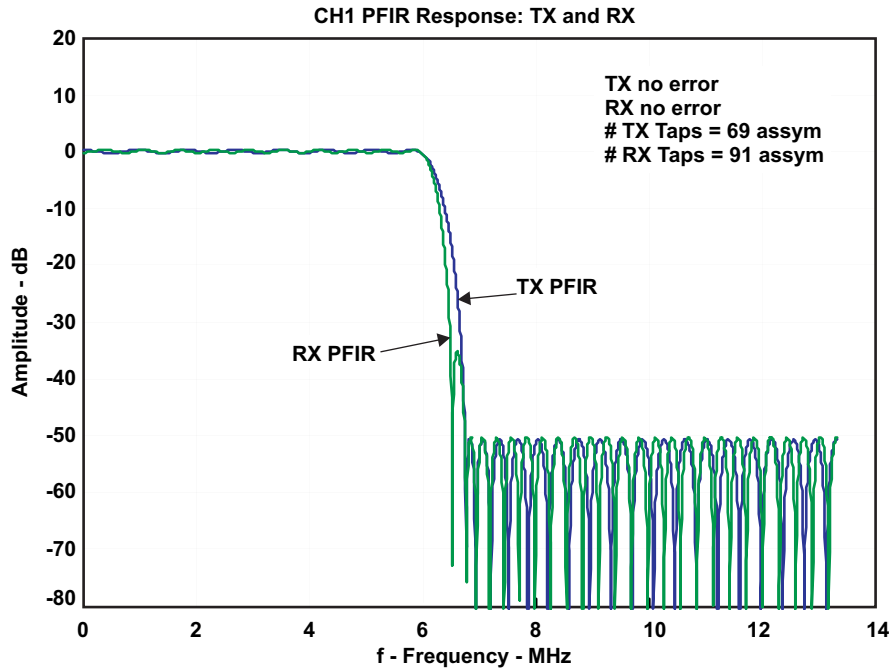

Figure 36. DDC (TX) and DUC (RX) PFIR Responses - Before CIC Correction Convolution
- DDC and DUC separate PFIR spectral responses (Figure 36)
First, look at Figure 36. This plot shows the PFIR spectral response of the DUC (TX) and DDC (RX) *before* convolution with CIC correction taps (using 3 or 5 taps).
The X-axis in Figure 36 has a frequency range from 0 Hz to $F_{PFIR} \div 2$, where $F_{PFIR} = \text{Clock} \div \text{CIC rate}$ or 160 MHz/6 (13.333 MHz). The Y-axis displays the filter response amplitude relative to the gain at 0 Hz. Image rejection for the DDC decimation and DUC interpolation of 2 \times requires that each filter response be 50 dB in the stopband $F_{PFIR} \div 2 - \text{Passband BW}$ (13.333–6 = 7.333 MHz) to $F_{PFIR} \div 2$.
The passband in Figure 36, expands the display by choosing the hourglass (+) icon, click a location on the window, and drag the mouse to define the passband area to magnify.